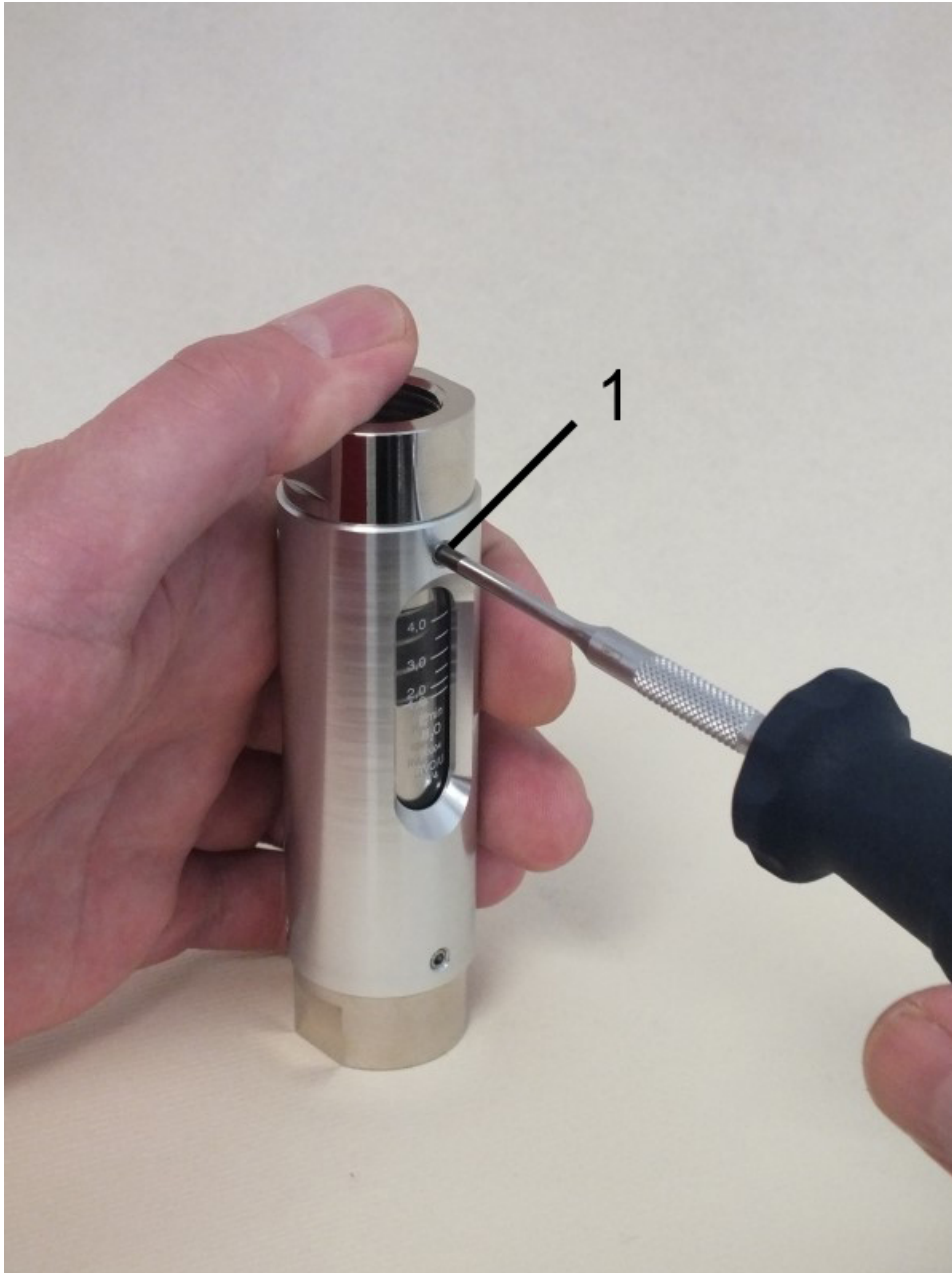

Fig. 34: Loosen screws
- 1.** ➤ Loosen the top 3 hex head screws (*Fig. 34/1*) using a hex screwdriver.